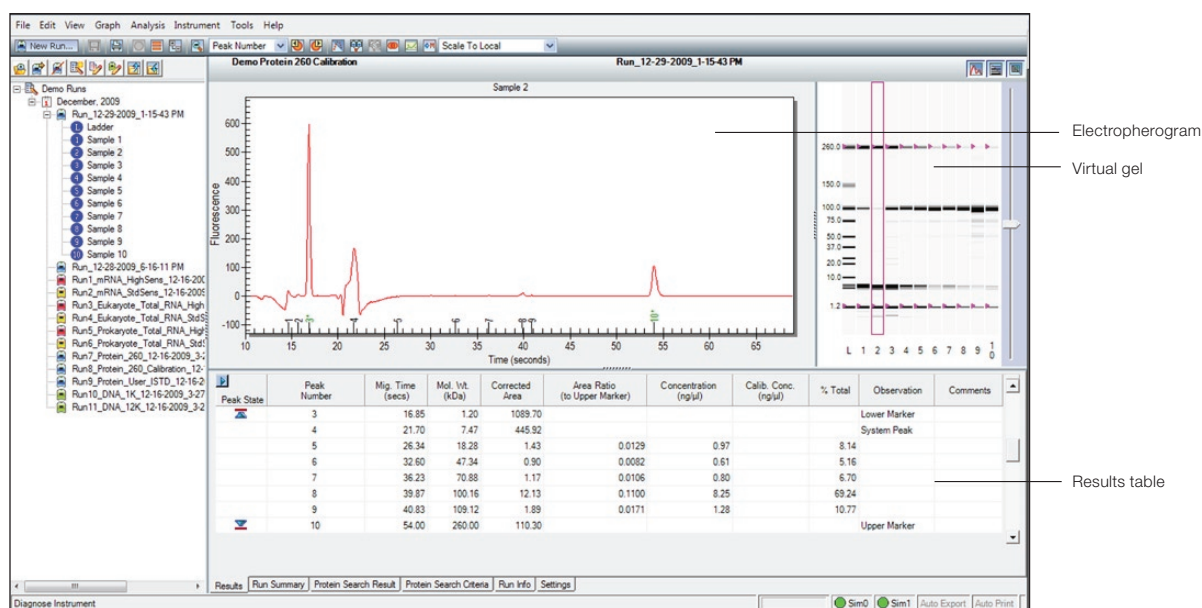

Fig. 1.6. Experion software display. The results of an Experion Pro260 analysis are shown.
- Data analysis — Once separation is complete, the software subtracts background noise, identifies and integrates peaks, and assigns their sizes and concentrations; the results of data analysis are automatically tabulated and presented in a table. Experion software displays all three forms of data simultaneously (Figure 1.6)